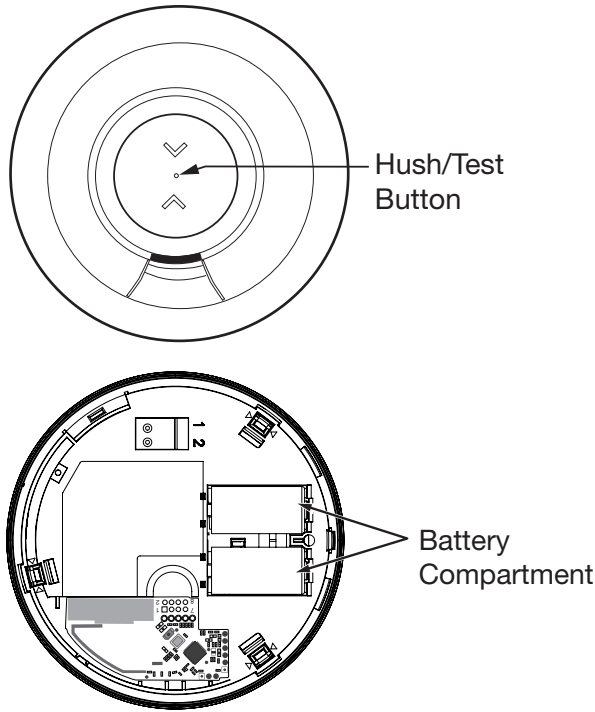

Figure 1. Wireless Smoke Heat Detector
- The test button is located on the Detector housing (see **Figure 1**).
- Push and hold the test button until the Detector sounds and the red LED flashes (see **Figure 1**). The Detector will stop sounding shortly after the button is released. The alarm panel will trigger and into alarm. The sounder begins the temporal 3 pattern and the red LED blinks. The alarm panel's console should display the Detector's name in alarm.